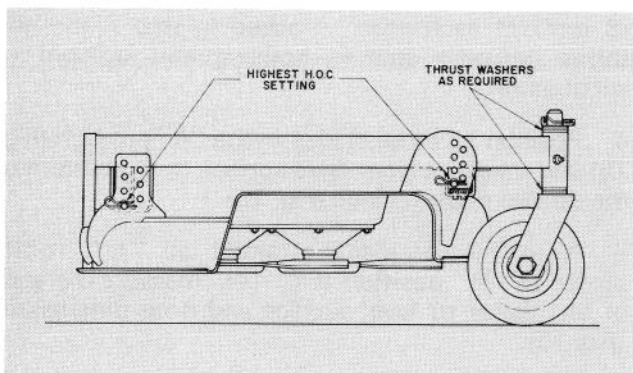

Figure 16
1. Check to make sure front height-of-cut pins are resting properly on frame cushions (Fig. 16).
2. Raise height-of-cut to the 3½" (89 mm) or 4 in. (102 mm) position (Fig. 16); refer to Adjusting Height-Of-Cut, page 7.
- A. Cutting units usually operated at 1 to 2 in. (25 to 51 mm) height-of-cut should have the low side of the cutting unit raised. Remove the lynch pin securing castor wheel on low end (Fig. 16) and remove castor assembly.